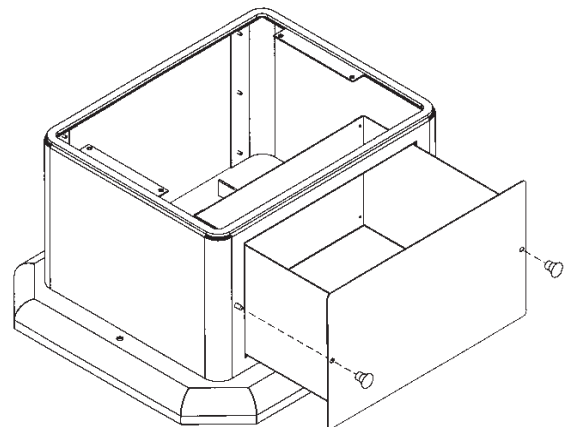

FIGURE 16
- f. Periodically remove and empty ash bin (see Figure 16) by unscrewing the two knobs on the front of the pedestal below the lower cowl. Dispose of ashes properly. (See “ASH REMOVAL” above)